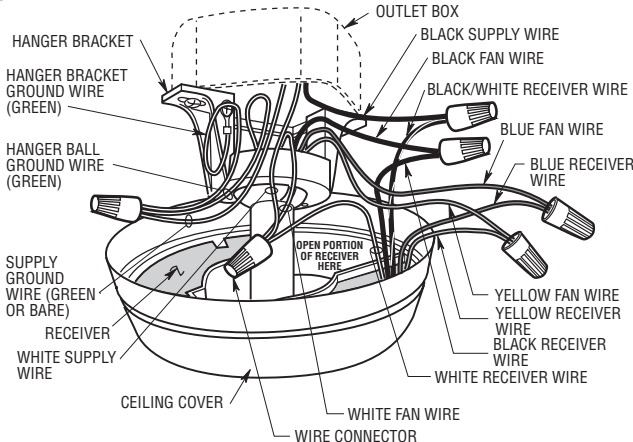

Figure 15
- 7. Pull the wire leads, coming from the end of the downrod, and the supply wires through the open side of the hanger bracket. (Figure 15).
- 8. Position the RC188/RC212 Receiver in the ceiling cover so that the flat side of the receiver faces up and the open portion of the receiver is to the right, as shown in Figure 15.
- 9. Using wire connectors (supplied), make wiring connections as follows (Figure 15 and 16):
- 11. Screw two 1-1/4" threaded studs (supplied with the ceiling fan) into the tapped holes in the hanger bracket (Figure 15).